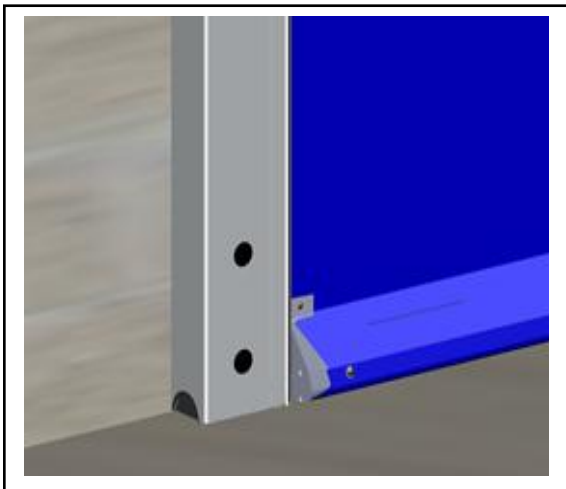
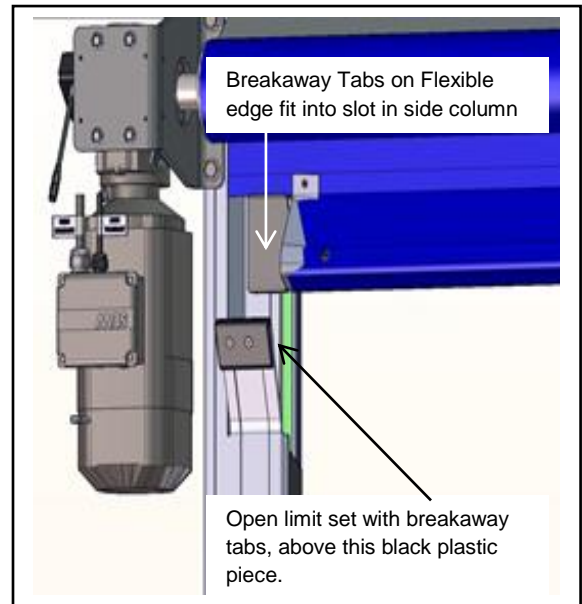

Figure 35
Figure 36
The close-limit position should be adjusted so that the door travel allows the vinyl covered flexible edge to gently seal against the floor. (See Figure 35.)
The open-limit position should be adjusted so that the door travel allows the flexible edge assembly to stop at the position shown in Figure 36.
**Open and Close Limits:** Check that limits are set properly. Downward travel of the door panel must stop when the vinyl covered flexible edge seals against the floor as shown in Figure 35. Upward travel should be as shown in Figure 36.